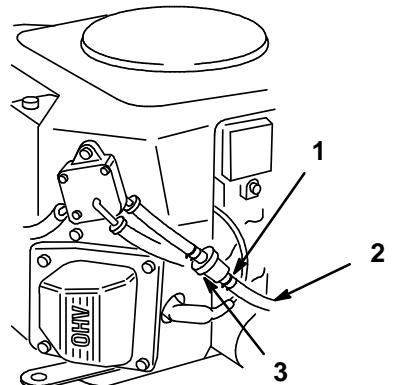

Figure 28
5. Pull the fuel line off the filter (Fig. 28). Open fuel shut-off valve and allow gasoline to drain into a gas can or drain pan.
4. Squeeze the ends of the hose clamp together and slide it up the fuel line toward the fuel tank (Fig. 28).